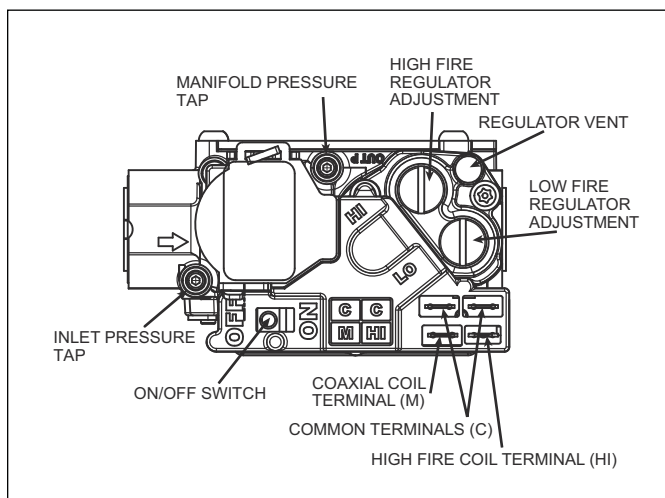

Figure 2
5. Push the gas valve switch to the OFF position (See Fig. 2).
8. If you do not smell gas after five minutes, push the gas valve switch to the ON position (See Fig. 2).
5. Move the appliance gas valve switch to the "OFF" position (See Fig. 2).